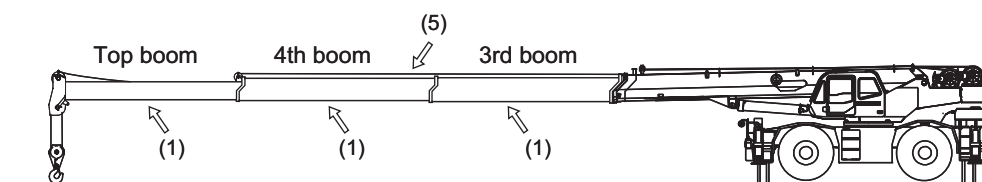

Fig.3
5. Fully extend the 3rd, 4th and top boom sections in Boom telescoping mode II, and then supply grease to the points shown in Fig. 3.